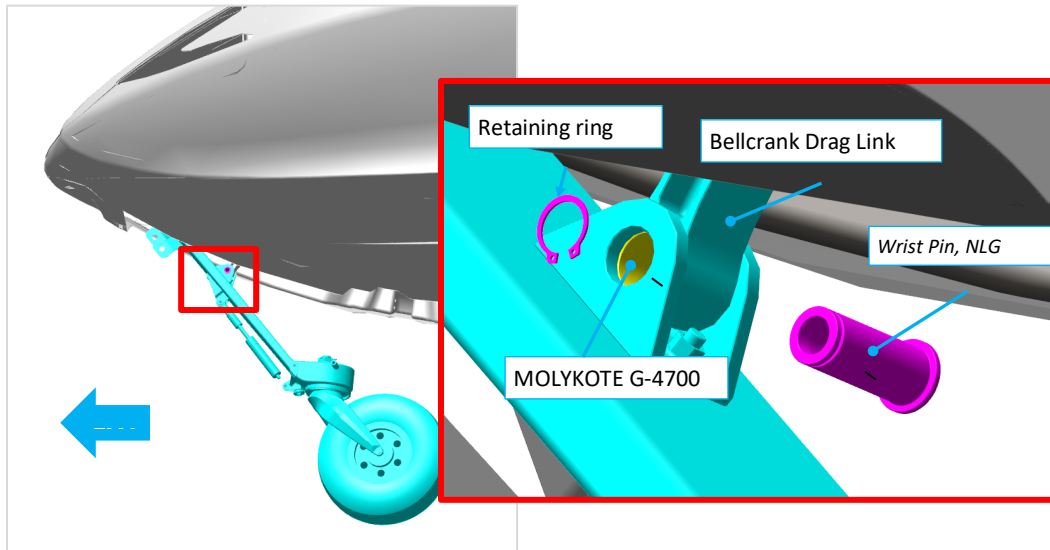

Figure 2 Release NLG Leg
4. Release NLG leg from NLG drag link by removing NLG wrist pin and retaining ring, see Figure 2 for reference. Discard retaining ring, retain pin for reinstallation.
11. Apply Molykote to the wrist pin and re-install through the NLG leg and NLG drag link as shown in Figure 2.